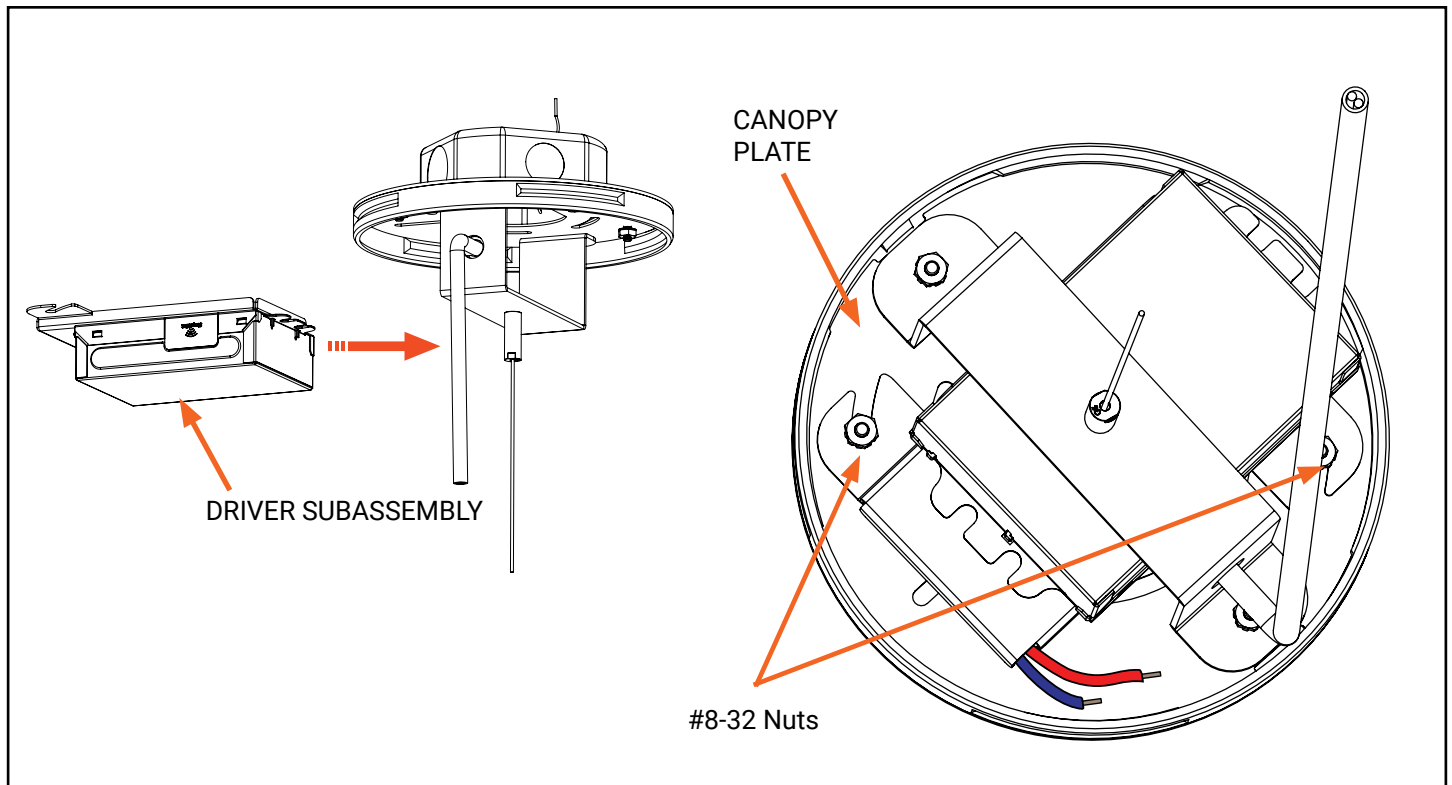

Figure 22
10. Reinstall the driver subassembly by aligning with studs and rotate Clockwise. Secure with two **#8-32 nuts (G)**. Make sure wires will not interfere with assembly while rotating. (Figure 22)